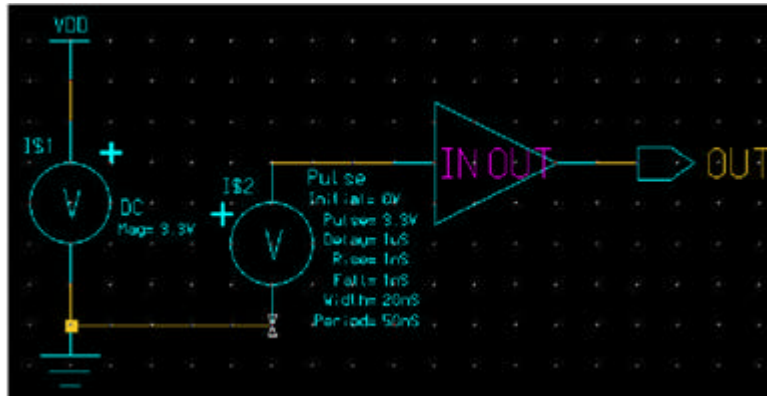

Figure 7-3. The schematic for Transient Analysis
1. Instead of using DC Source by using Pulse Source, connect to the input of inverter as shown in Figure 7-3.